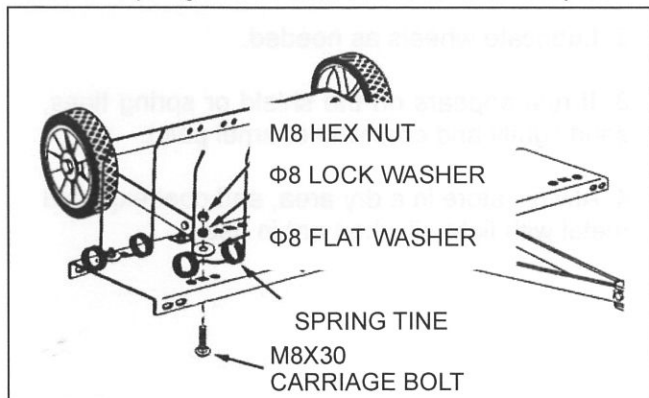

FIGURE 7
13. Fasten ten spring tines to the square holes in the bottom of the tine shield. Use a M8x30 carriage bolt, $\Phi 8$ flat washer M8 lock washer and M8 hex nut for each spring tine. Tighten. See figure 7.